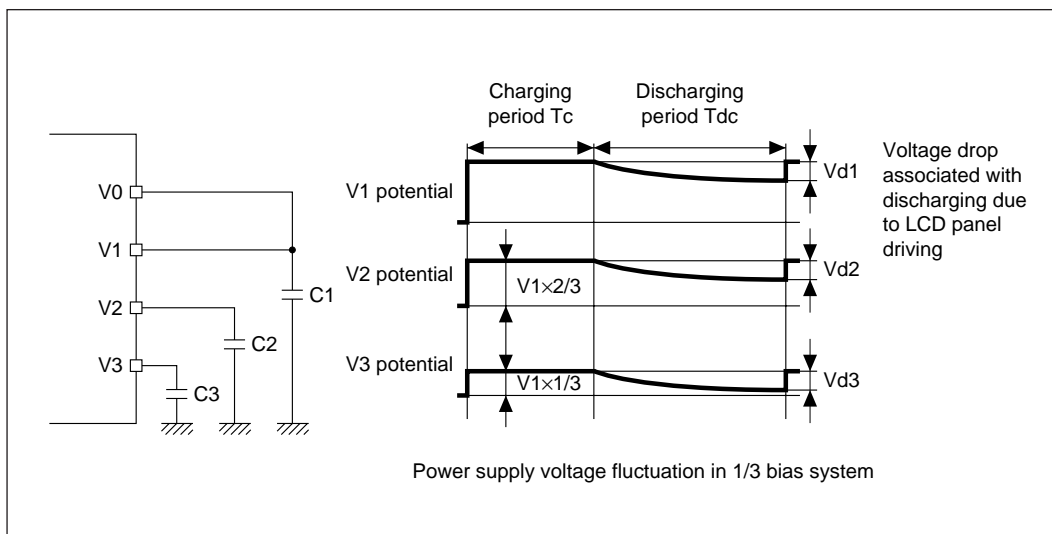

Figure 13-14 Example of Low-Power-Consumption LCD Drive Operation
1. Capacitors are connected as external circuits to LCD power supply pins V_1 , V_2 , and V_3 , as shown in figure 13-14.
2. The capacitors connected to V_1 , V_2 , and V_3 are repeatedly charged and discharged in the cycle shown in figure 13-14, maintaining the potentials.
1. During charging period T_c in the figure, the potential is divided among pins V1, V2, and V3 by the built-in split-resistance (the potential of V2 being $2/3$ that of V1, and that of V3 being $1/3$ that of V1), as shown in figure 13-14, and external capacitors C1, C2, and C3 are charged. The LCD panel continues to be driven during this time.
4. In this way, the capacitors connected to V1, V2, and V3 are repeatedly charged and discharged in the cycle shown in figure 13-14, maintaining the potentials and continuously driving the LCD panel.